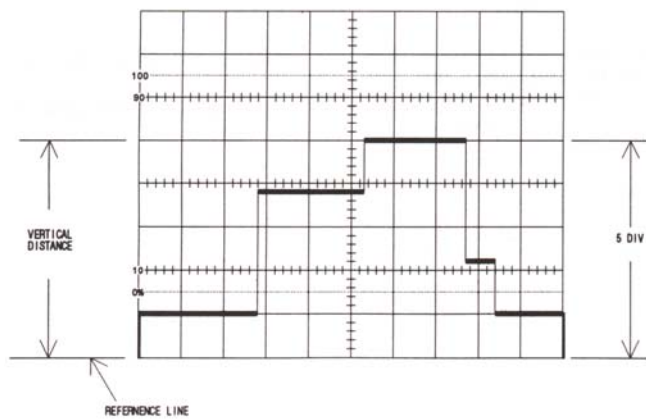

Fig. 2.6: Instantaneous Voltage Measurements
2. Connect the component test input (36) and GND (37) to both terminals of component with DMM Probe. Then V-I characteristic curve is displayed on the screen (see figure 2-6).
2. Adjust the TIME/DIV switch (15) for one complete cycle of waveform and set the VOLTS/DIV switch for a trace amplitude of 4 to 6 divisions (see Figure 2.6)
3. Flip the AC/GND/DC switch (25) or (21) to GND.
4. Use the appropriate Vertical POSITION control (4) or (7) to set the baseline on the central horizontal graticule line. However, if you know the signal voltage is wholly positive, use the bottommost graticule line. If you know the signal voltage is wholly negative, use the uppermost graticule line.
6. Use the horizontal POSITION control (10) to position any point of interest on the central vertical graticule line. This line has additional calibration marks equal to 0.2 major division each. The voltage relative to ground at any point selected is equal to the number of divisions from that point to the ground reference line multiplied by the VOLTS/DIV setting. In the example used for figure 2-6, the voltage for a 0.5 V/div scale is 2.5 V (5.0 div x 5 V).